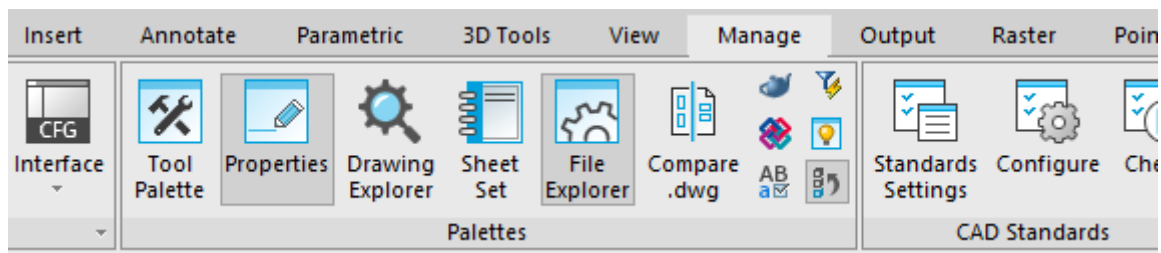

Fig. 58. File Explorer location in the Ribbon
8.2. **Manage – Palettes – File Explorer** (fig. 58):